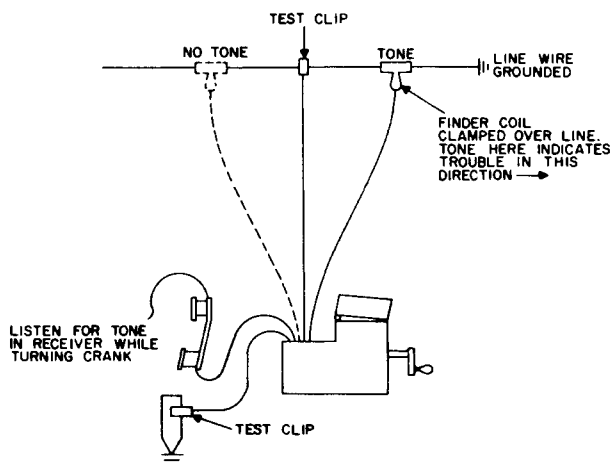

Figure 9. Connection diagram for grounded line wire.
- Attach one test clip to the line wire and the other to a known earth ground, such as a grounded guy-wire etc., (figure 9). If an earth ground is not readily available, drive a metal pipe or stake into the ground.